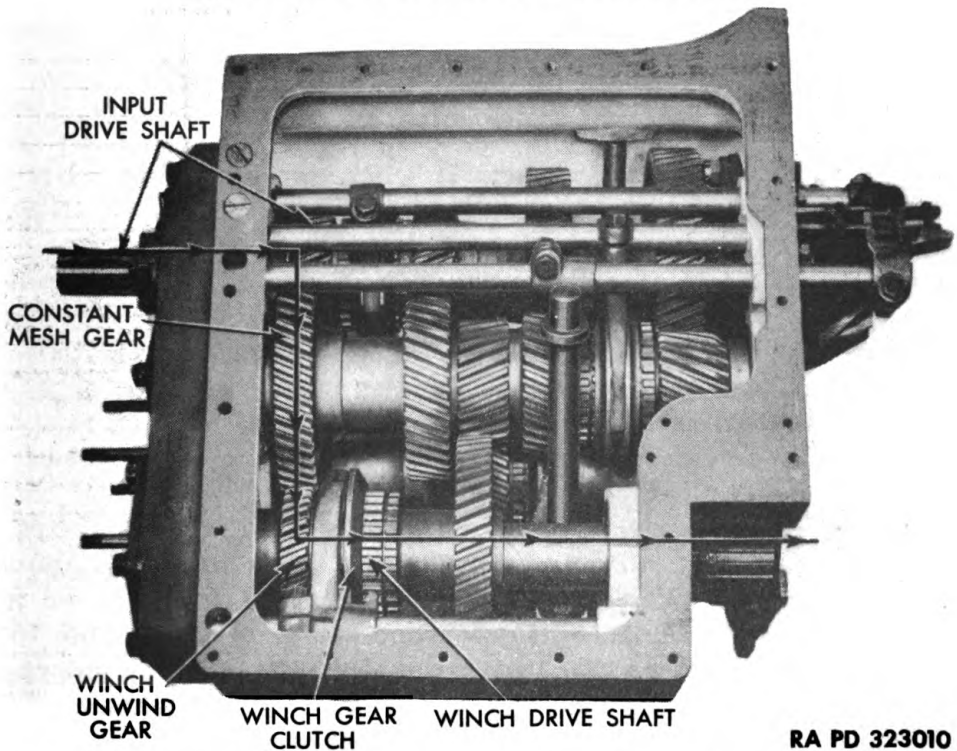

Figure 9 — Transmission in Winch Unwind Gear
(7) **WINCH UNWIND GEAR** (fig. 9). The winch gear clutch is engaged with the winch unwind gear. Power enters the input drive shaft, and is transmitted through the constant mesh gear, and winch unwind gear, to the winch drive shaft.